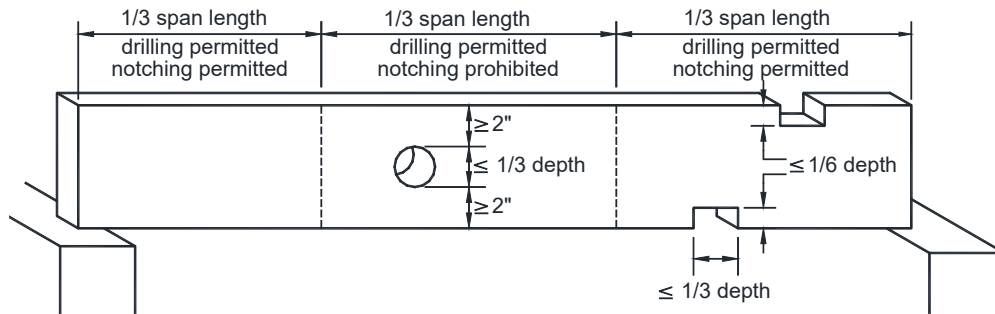

FIGURE 10: DRILLING AND NOTCHING JOISTS
- Drilling and notching 2x lumber shall be in conformance with FIGURE 10. Cantilevered (overhanging) joists cannot be notched.